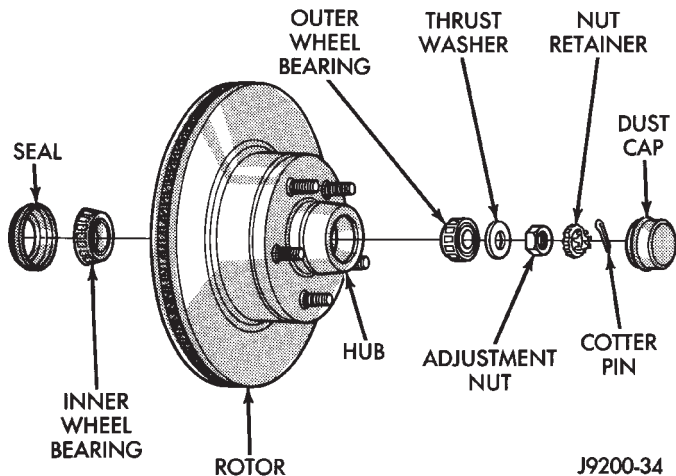

Fig. 3 2WD Front Wheel Bearings—XJ Vehicles
(2) Remove the dust cap, the cotter pin, the nut retainer, the adjustment nut, and the thrust washer from the spindle (Fig. 3). Discard the cotter pin.